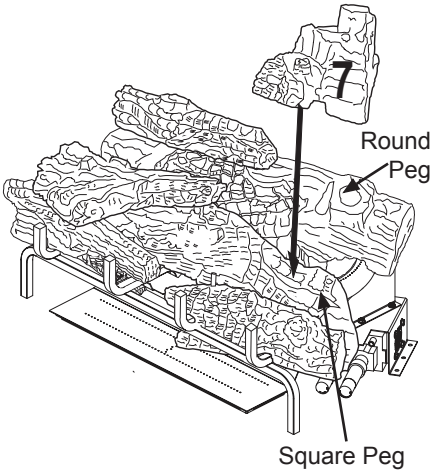

Figure 43 - Installing Log # 7
- Place the right rear chunk log (#7) on top of the middle log (#2) and rear log (#1) as shown in Figure 43. Match the round peg on the top of the rear log (#1) with the round hole on the bottom of the right rear chunk (#7) log and square peg on the top of the middle log (#2) with the square hole on the bottom of the right rear chunk log (#7).